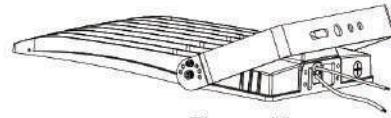

Figure 12
Step 2: Install two small screws. (Figure 12)